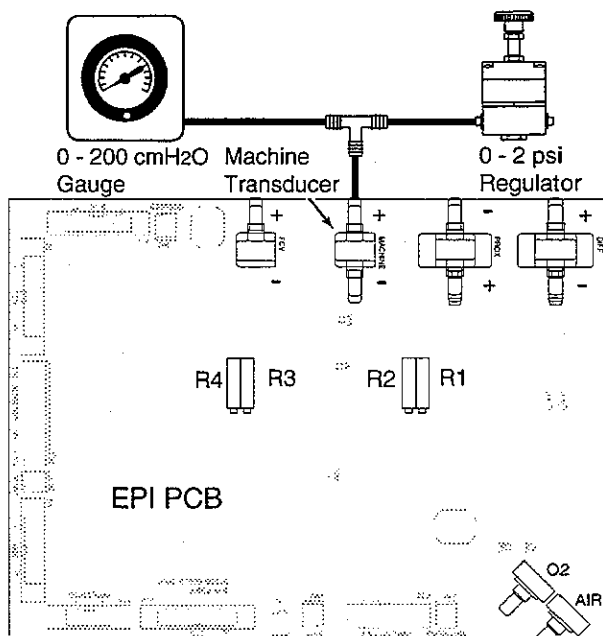

Figure 5-5
7. Connect the Machine Transducer as shown in Figure 5-5 and apply 120 ± 5 cmH₂O pressure.